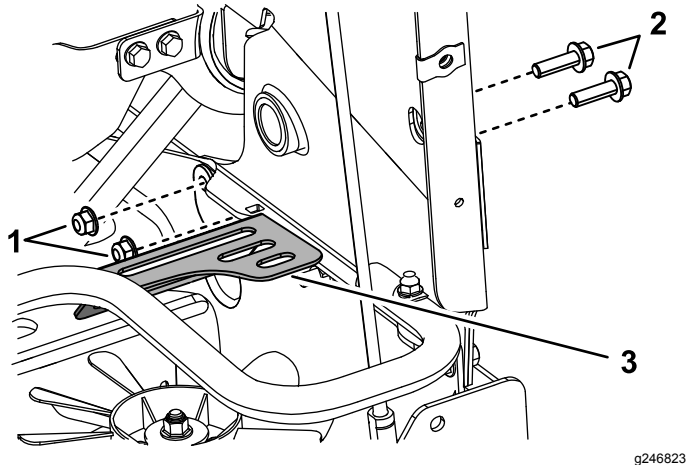

Figure 30
4. Thread-forming bolt (2)
15. Remove the 2 bolts and 2 nuts from the right side of the machine and use them to install fan guard (Figure 30). Torque the bolts to 37 to 45 N·m (27 to 33 ft-lb).